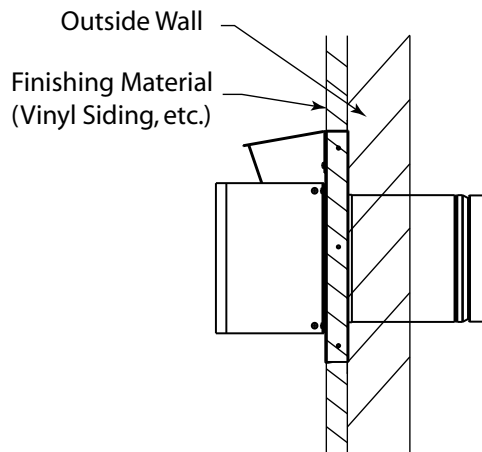

Fig. 19 Termination cap on wall
- Termination cap **MUST NOT** be recessed into a wall (see Figure 19).